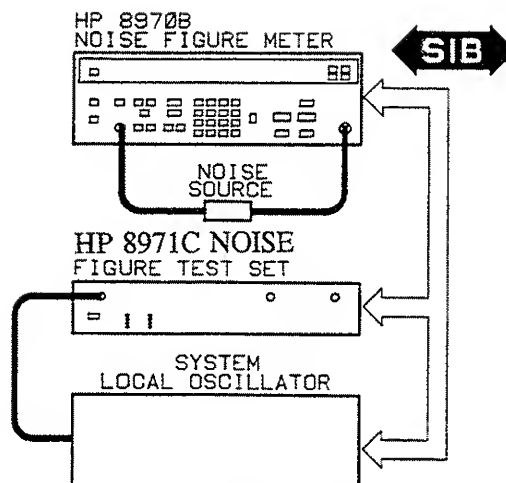

Figure 4-9. Noise Figure Calibration Test Setup
15. Reconnect the Noise Figure Calibration Setup. (Figure 4-9)